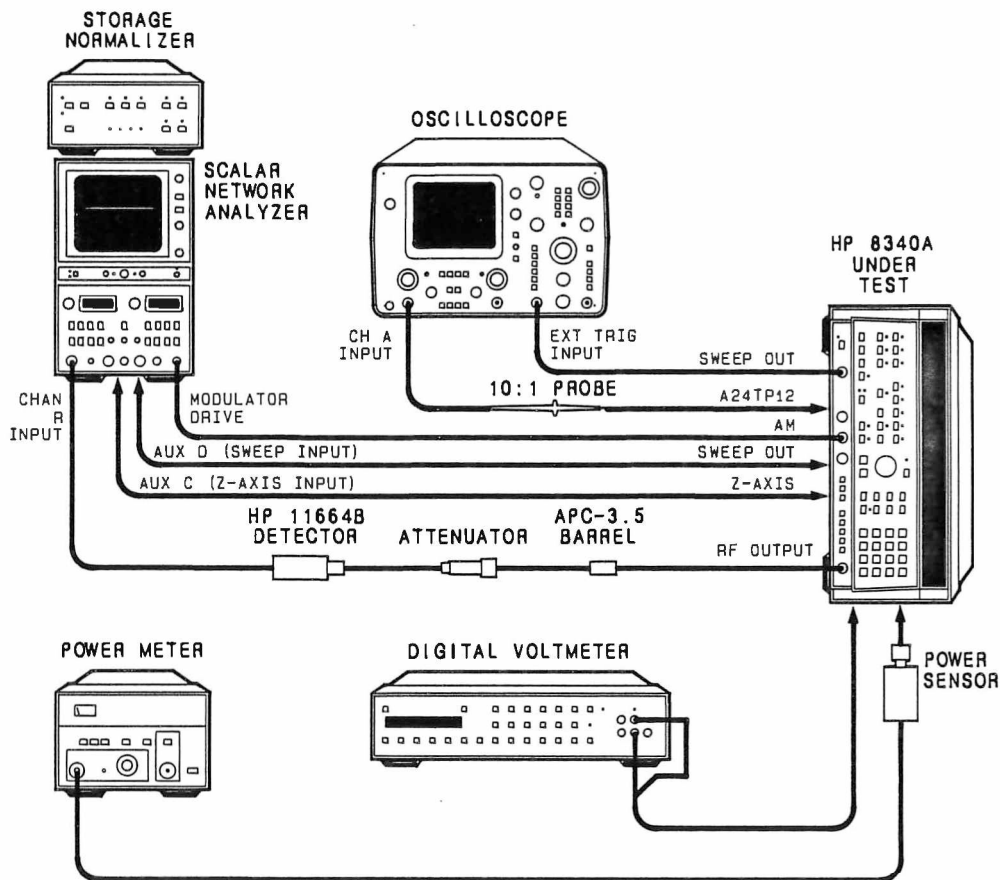

Figure 5-55. SYTM Tracking and Delay, and Leveled SRD Bias Adjustment Setup
26. Connect equipment for SYTM tracking as shown in Figure 5-55. Allow at least 30 minutes warm up.